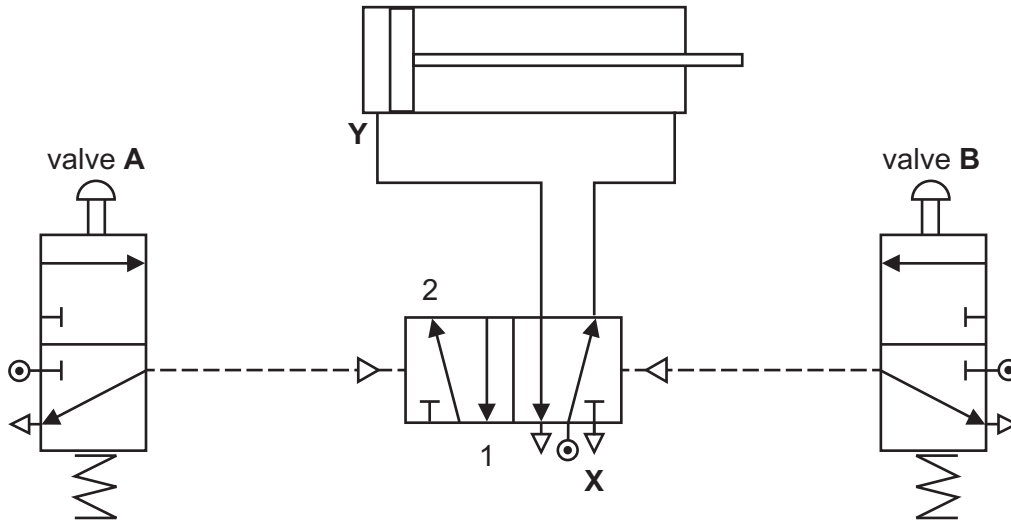

Fig. 6
5 Fig. 6 shows a manually operated pneumatic circuit.
- (a) (i) The statements below describe the stages of the outstroke operation of the double acting cylinder circuit in Fig. 6.
(ii) State the purpose of valve **B** in Fig. 6.
(iv) Add a label to Fig. 6 to show **one** pilot air control line. [1]